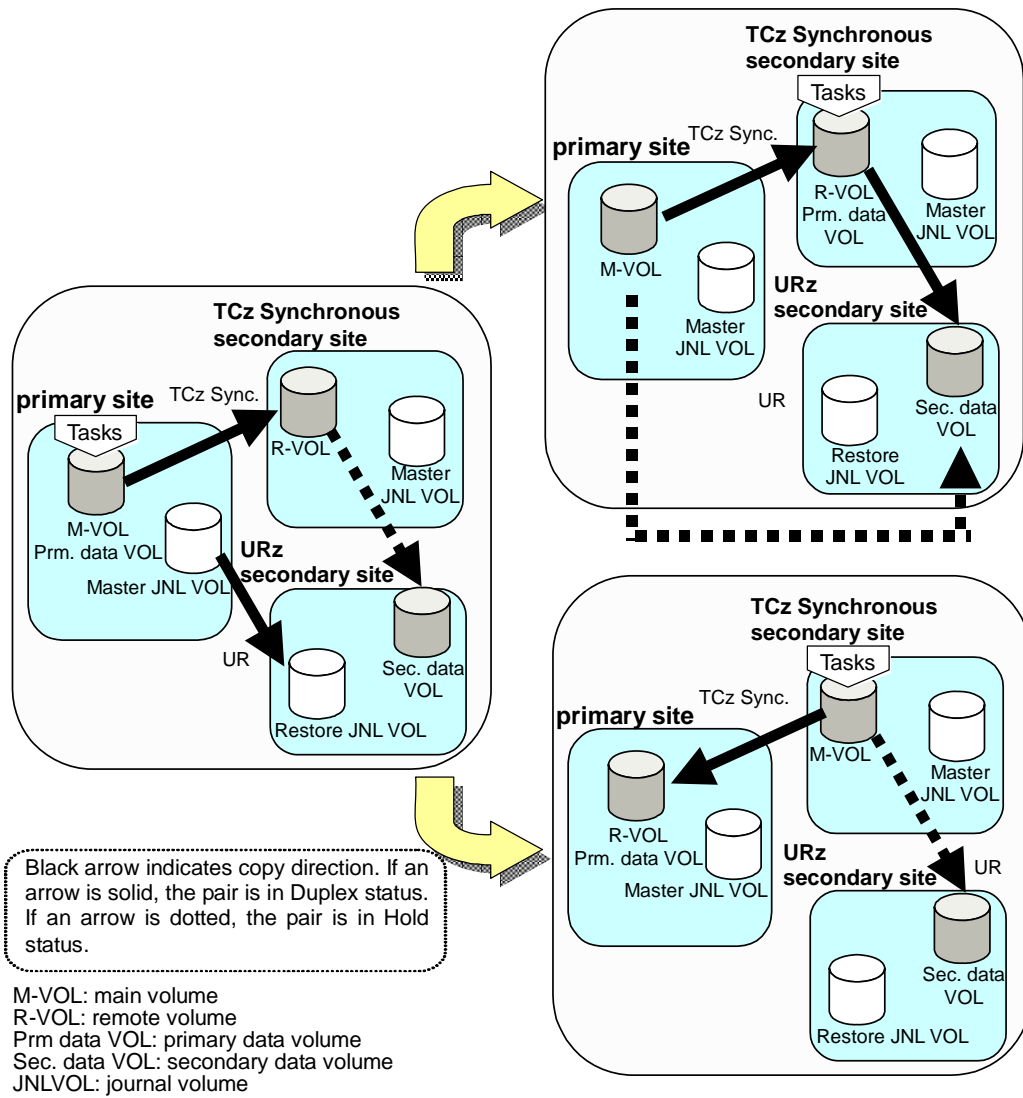

Figure 10-3 Recovery from Disaster in the Primary Site (When Delta Resync Operation is Performed)
4. In the either cases when the primary/secondary relationship of the TCz Synchronous pair is not reversed (i.e., the copy direction is not reversed as illustrated in the upper-right picture in Figure 10-3), or when the primary/secondary relationship of the TCz Synchronous pair is reversed (i.e., the copy direction is reversed as illustrated in the lower-right picture in Figure 10-3), use Business Continuity Manager's **YKRESYNC DELTAJNL** command to perform delta resync operation on the volume in the TCz Synchronous secondary site. The status of the data volumes of URz pair changes as explained in the following table.